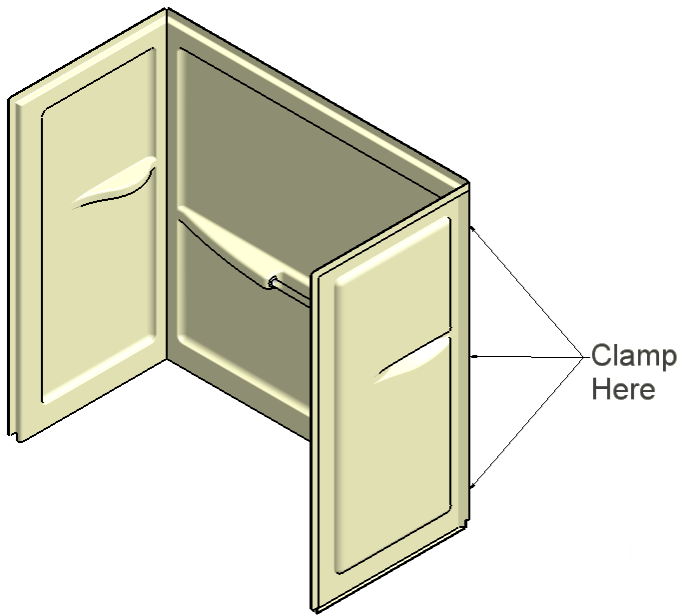
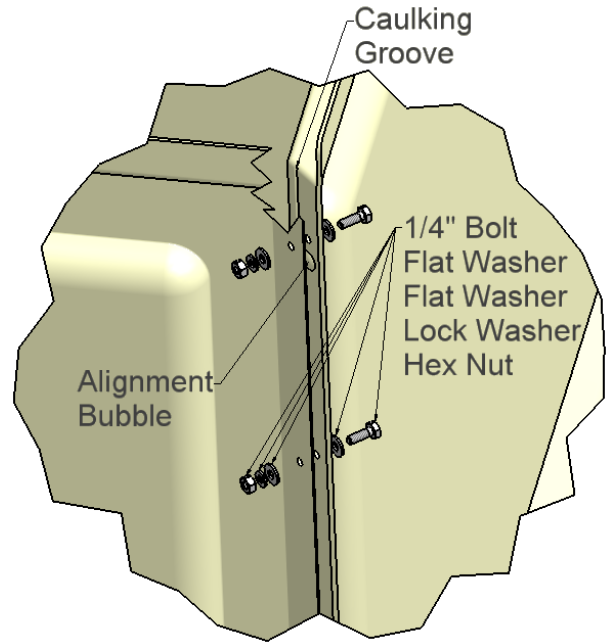

Fig 1
Fig. 2
- Set the wall set up on a flat surface (bottom edge down) and clamp the panels together using three clamps per joint. (Fig. 1) Ensure Alignment bubbles are properly aligned. (Fig. 2)
- Temporarily bolt the panels together using three bolts per joint evenly spaced. (Fig. 2)
- Apply a 1/4" bead of Caulking to the grooves in the back wall bolting flanges. (Fig. 2)